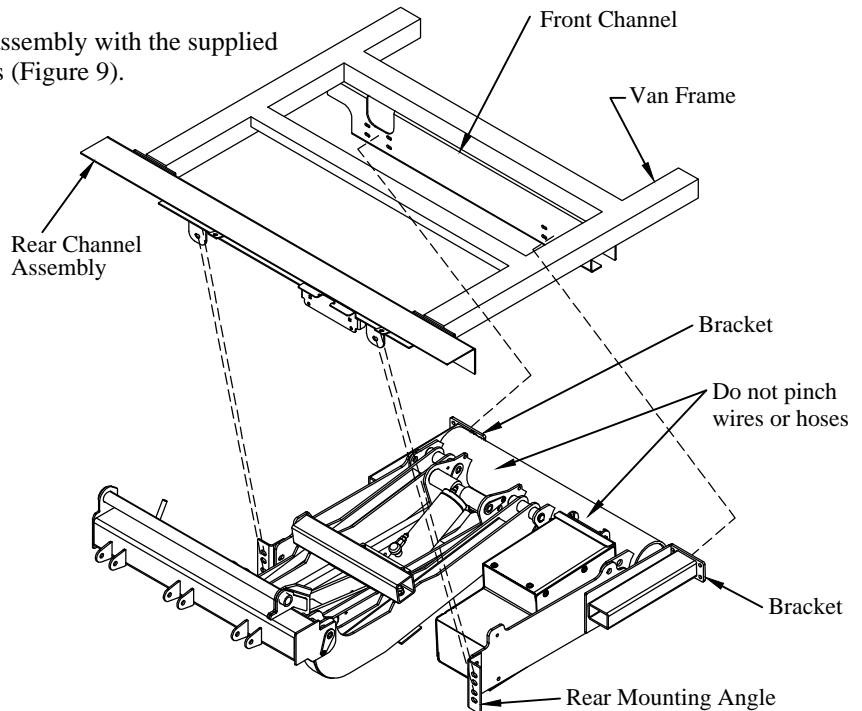

Figure 9: Main assembly position on frame.
4. **Attach** the brackets to the front channel assembly with the supplied eight (8) 3/8" x 1-1/4" bolts, flat washers, lock washers and nuts.
5. **Attach** the rear mounting angles to the rear channel assembly with the supplied four (4) 1/2" x 1-1/4" bolts, lock washers, and nuts (Figure 9).